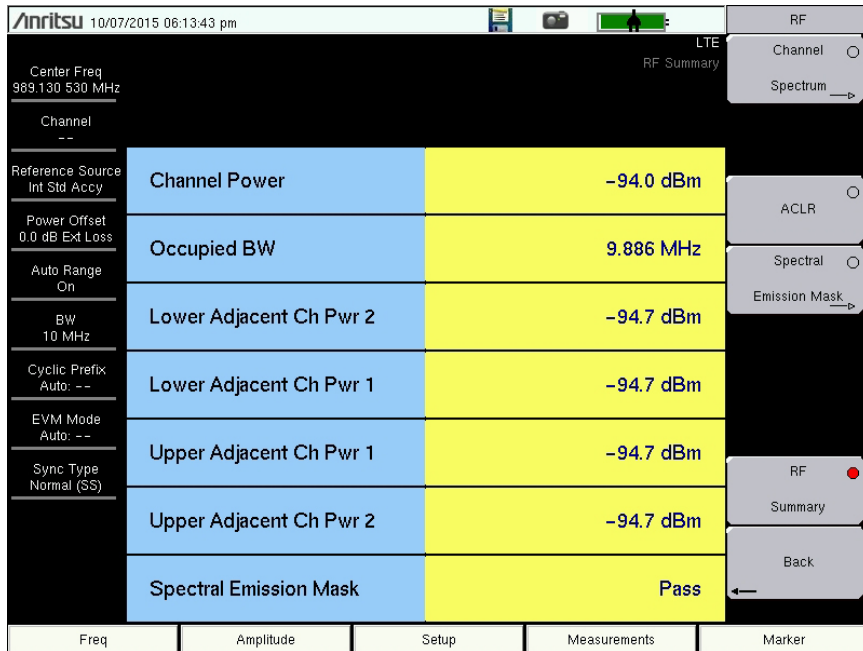

Figure 5-5. RF Summary
3. Press the RF Summary submenu key to activate and display the RF measurements in table format (Figure 5-5).